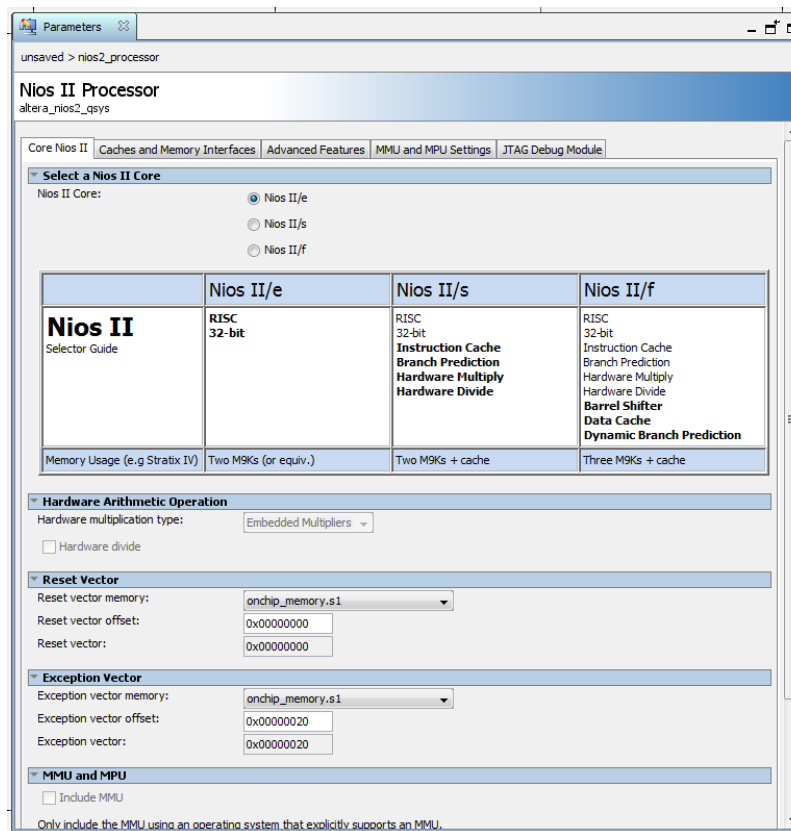

Figure 17. Define the reset and exception vectors.
- Right-click on the *nios2\_processor* component in the window displayed in Figure 16, and then select Edit to reach the window in Figure 17
- Select *onchip\_memory.s1* to be the memory device for both reset and exception vectors, as shown in Figure 17